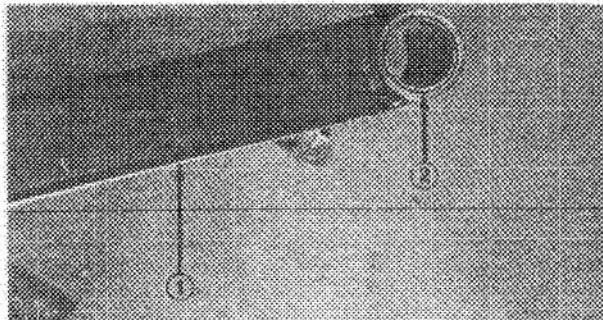

Figure 49
8. Using pin punch and hammer, drive both bushings out of axle tube (Fig. 49). Clean inside of axle tube to remove dirt and foreign matter.
9. Notice groove on inside of new bushing. When it is installed, open end of groove must face to the outside of rear axle tube. Apply grease to inside and outside of the new bushings. Using an arbor press, drive bushings into the top and bottom of the axle tube. Bushings must be flush with axle tube (Fig. 49).